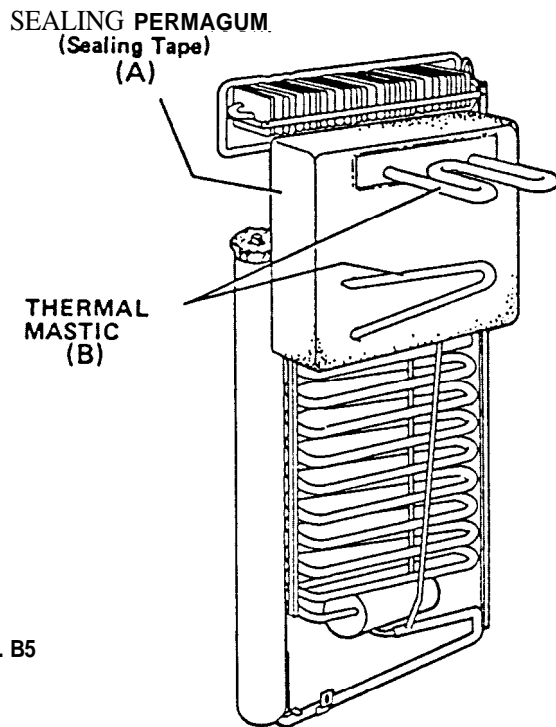

FIG. B5
2. Apply sealing permagum (sealing tape) on mounting plate (A; FIG. B5).
3. Apply thermal mastic on the evaporator coil (B; FIG. B5).